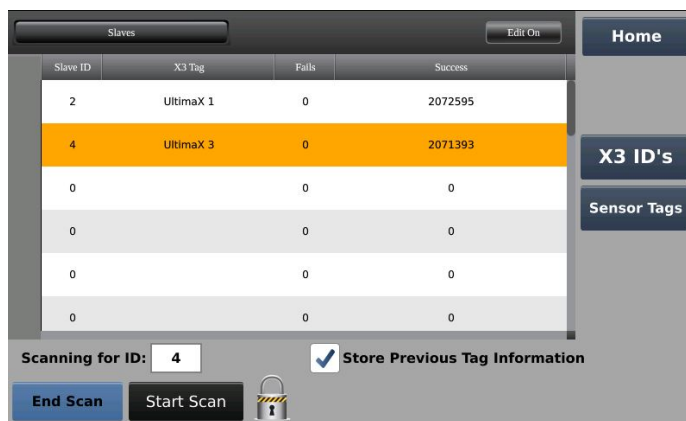

Figure 30. Add Units to the Network
- Swipe up to view Slave ID's for X3 transmitters in addition to the six shown initially. Press in the gray area to the left of a Slave ID as shown in Figure 30. Slave ID and X3 Tag will highlight yellow